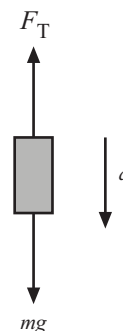

Figure 3.4: Free-body diagram of hanging mass
- Calculate the tension in the string (F_T). Since the hanging mass is accelerating, the string tension is not the weight of the mass. Writing Newton's 2nd Equation for the free-body diagram in Figure 3.4 yields: